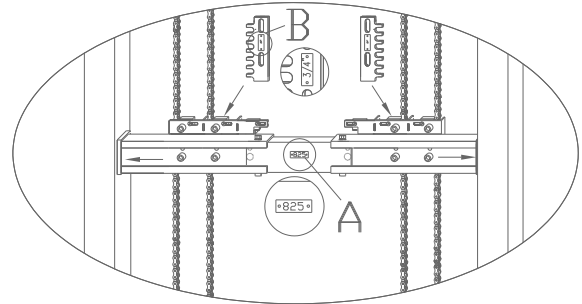

Fig. 38: Marks on the locking device
2. The mark **A** on the centre linking piece (see Fig. 38) has to match the container depth (635, 825, 1047 or 1270) of the lift; for this, refer to the last number of the lift type marking on the type plate (e.g. 1300-**635**, 2460-**825**, etc.).
3. The mark **B** on the notched chain holder (see Fig. 38) has to match the chain pitch of the vertical chain (5/8" or 3/4") - for more information, refer to Chapter 7.9.